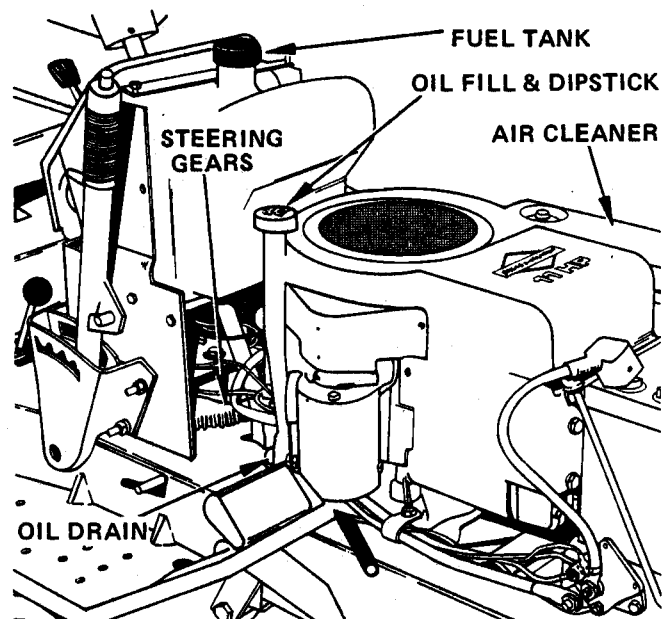

FIGURE 24
FILLING THE FUEL TANK — FIGURE 24
ENGINE OIL — FIGURE 24
2. Drain crankcase by opening petcock or removing the drain plug, Figure 24, while the engine is warm. Allow the oil to run into a container.
STEERING GEARS — FIGURE 24
Apply a light coat of Ariens Moly Lithium grease to steering gears every 50 hours of operation. See Figure 24.